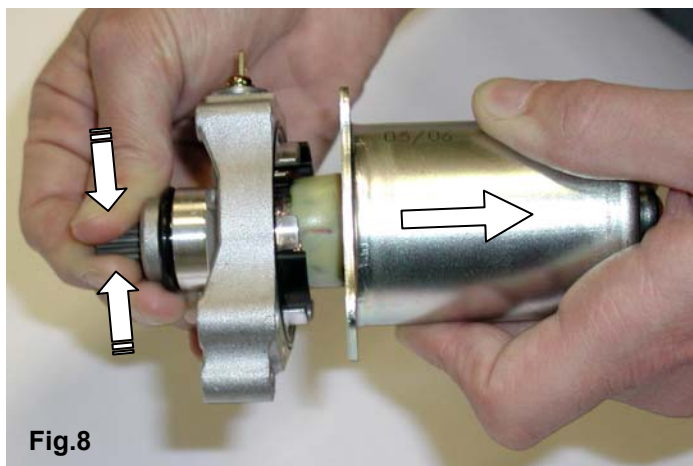

Fig.8
- REMOVE DRUM FROM STARTER KEEPING ROTOR IN ITS SEAT (BE SURE TO HOLD THE ROTOR ON ITS TOOTHED SIDE TO PREVENT THE BRUSHES FROM FALLING OUT FROM THEIR SEAT) (see Fig . 8)